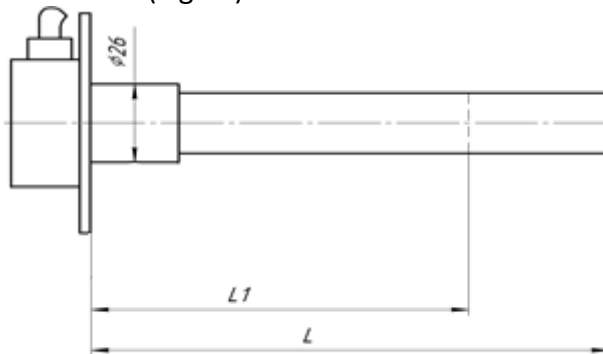

Figure 12.
- 2) Measure off the length **L1** (depth of the fuel tank minus 10-15 mm) on the working length of the sensor (Fig.12).